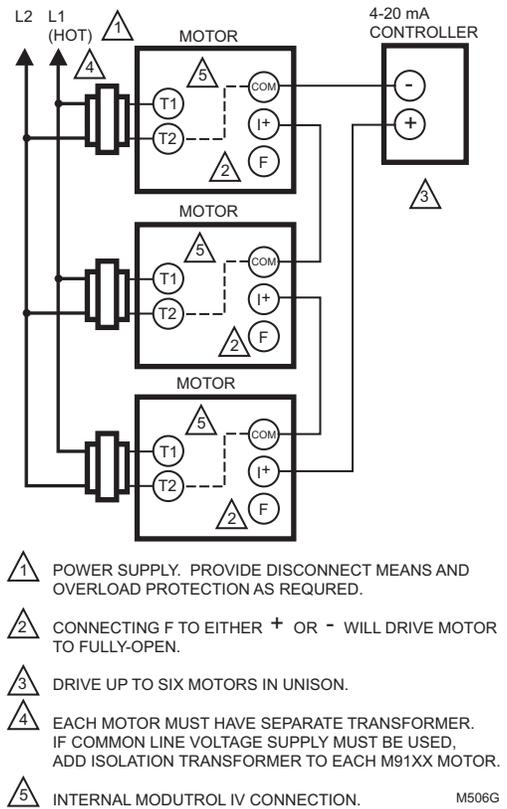

**Fig. 4. Q7230A terminals and adjustments.**
**Q7230 Adjustments (Fig. 4 and Table 3)**